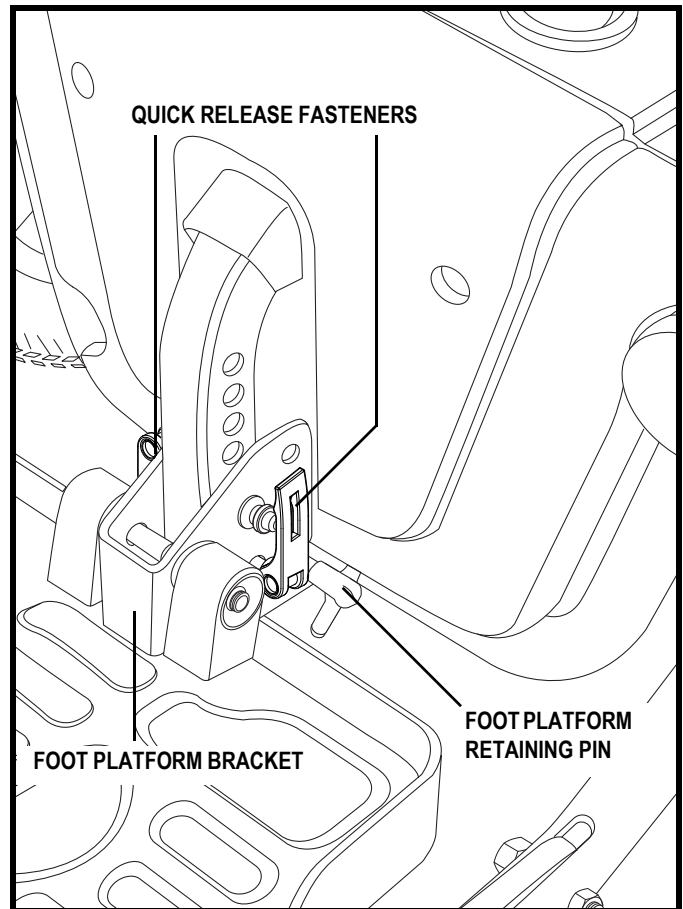
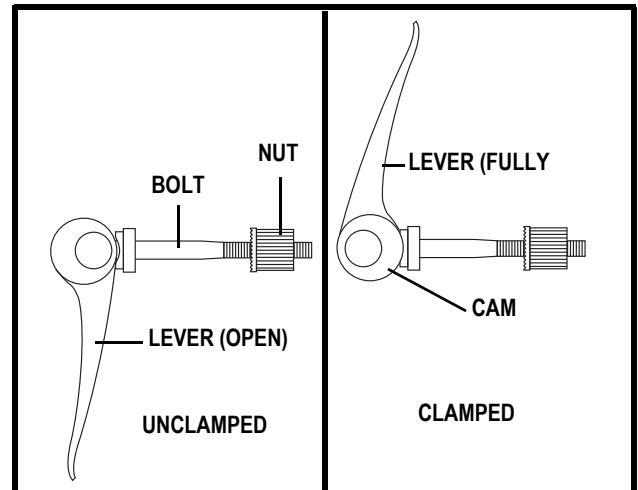

Figure 20. Foot Platform Adjustment
Figure 21. Quick Release Fastener Operation
1. Remove the quick release fasteners from the foot platform bracket. See figure 20.
1. Remove the fasteners from the foot platform bracket. See figure 20.
**Quick Release Fasteners:** The foot platform is attached to the power base with two quick release fasteners. See figure 20. Each quick release fastener consists of a bolt, a lever, and a nut. See figure 21. The lever has a cam on the end that allows it to clamp into place. The quick release fastener has two states: clamped and unclamped. When the lever is open, the quick release fastener is unclamped. When the lever is closed, the quick release fastener is clamped.